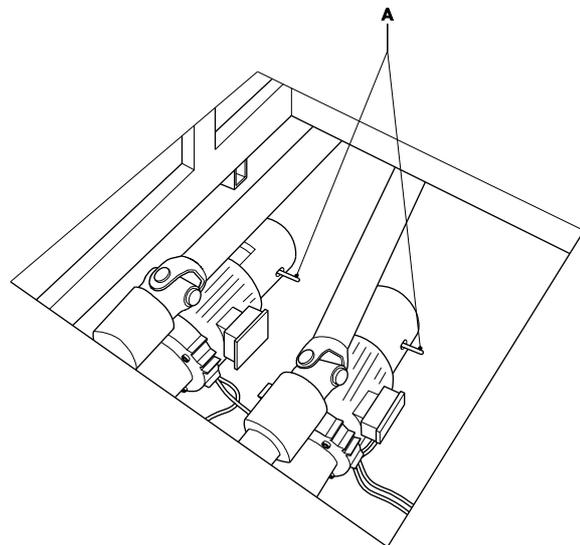

Fig.7-5 Brake lever platform
2. Each motor is provided with a lever with which the motor brake can be released (A, Fig.7-5).